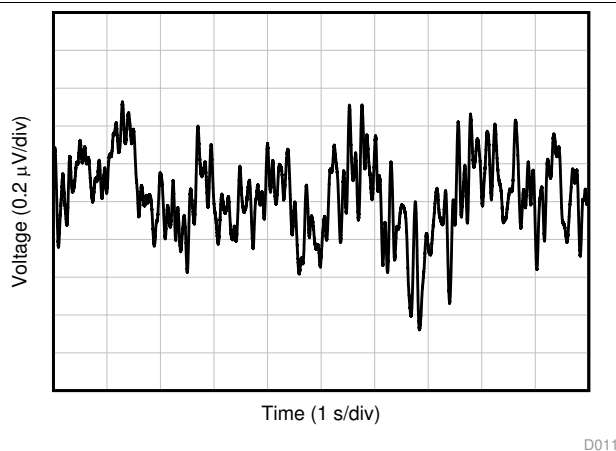

Figure 49. 0.1-Hz to 10-Hz Flicker Noise
0.1-Hz to 10-Hz Flicker Noise	Figure 49